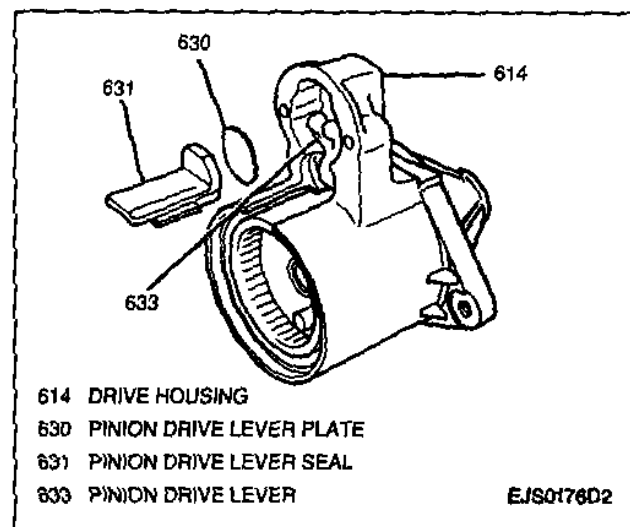

Figure 17—Removing Pinion Drive Lever Seal and Plate
6. Pinion drive lever seal and plate from drive housing (Figure 17).